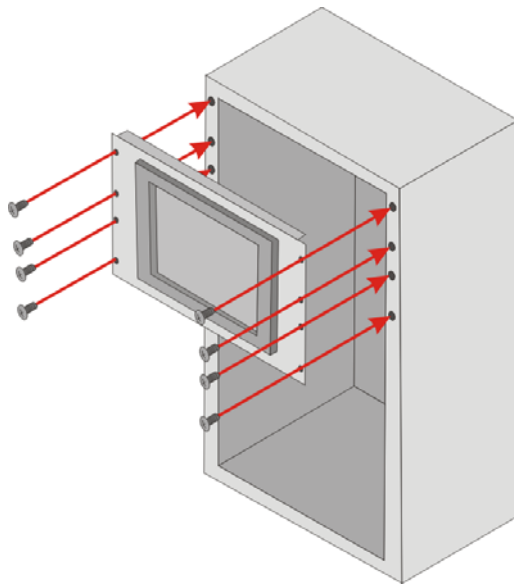

Figure 3-19: Install into a Rack/Cabinet
Step 4: Slide the flat panel PC with the attached rack/cabinet bracket into a rack or cabinet (**Figure 3-19**).
Step 5: Once the flat panel PC with the attached rack/cabinet bracket has been properly inserted into the rack or cabinet, secure the front of the rack/cabinet bracket to the front of the rack or cabinet (**Figure 3-19**).